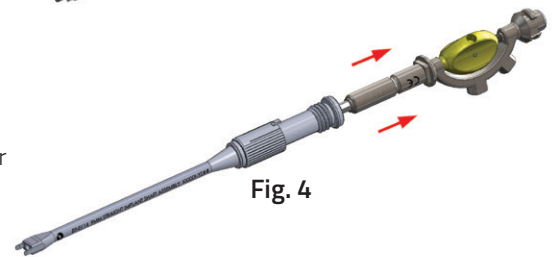

Fig. 4
- e) Using caution to not drop the Threaded Insert out of the Inserter Shaft, firmly tug the Inserter Shaft apart from the Instrument Body. (Fig. 4)